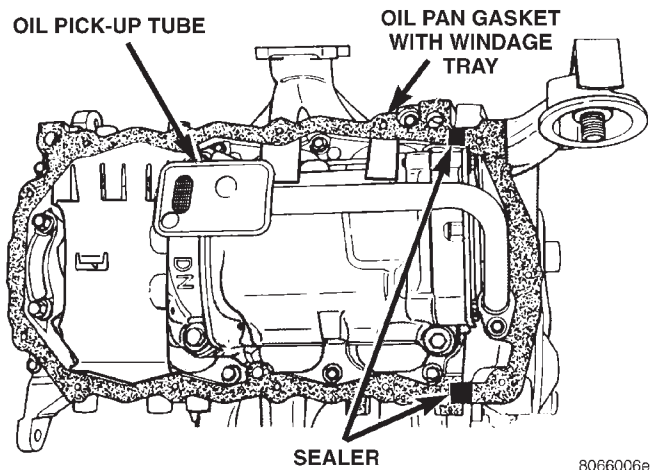

Fig. 60 Oil Pan Gasket Installation
- (2) Install the oil pan gasket to the block (Fig. 60).
- (3) Install pan and tighten the screws to 12 N-m (105 in. lbs.).